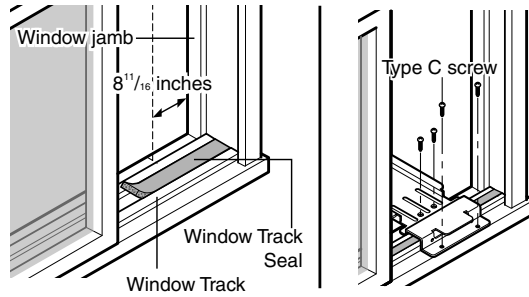

Figure 23
2. Remove protective backing from Window Track Seal and apply seal to window track. (See Figure 23)
3. Measure and lightly mark a line 8-1/4 inches from window jamb. Center the Support Bracket assembly on the window track and fasten with 4 Type C screws. (See Figure 23)